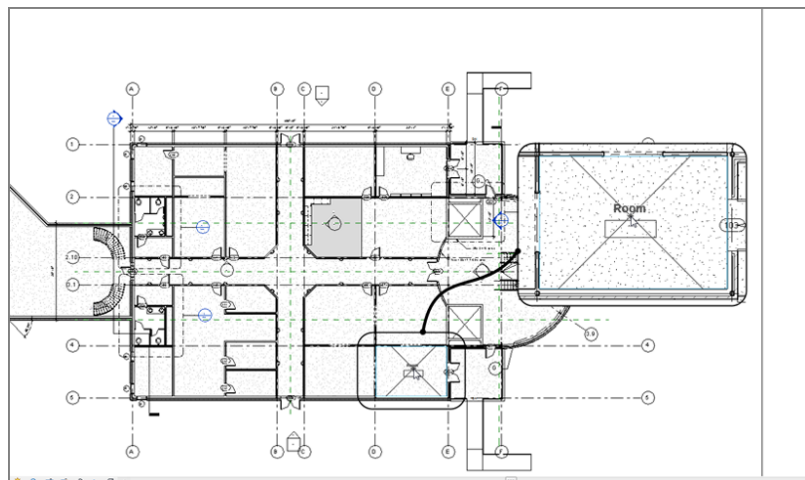

FIGURE 15.1: When you hover your mouse over the intended area of the room, you see an indication that Revit has found the bounding edges.
3. Hover your cursor over the southeast room, as shown in Figure 15.1. An X appears, along with the outline of a room tag.